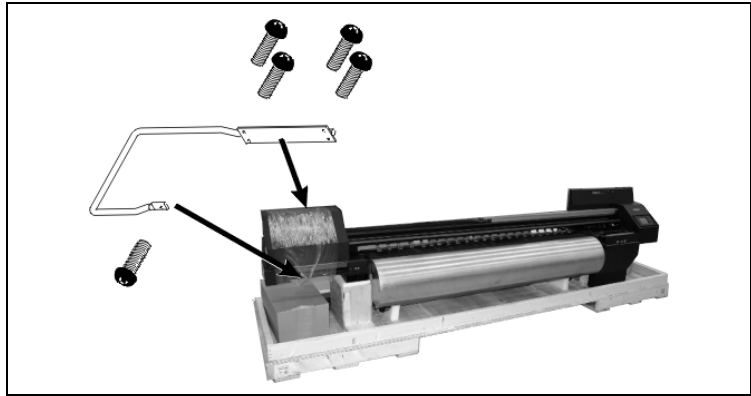

Fig. 1-3. Lift handle
15. Attach the lift handle to the left end of the printer, using four #2 screws on the back and one screw on the front (see Fig. 1-3).